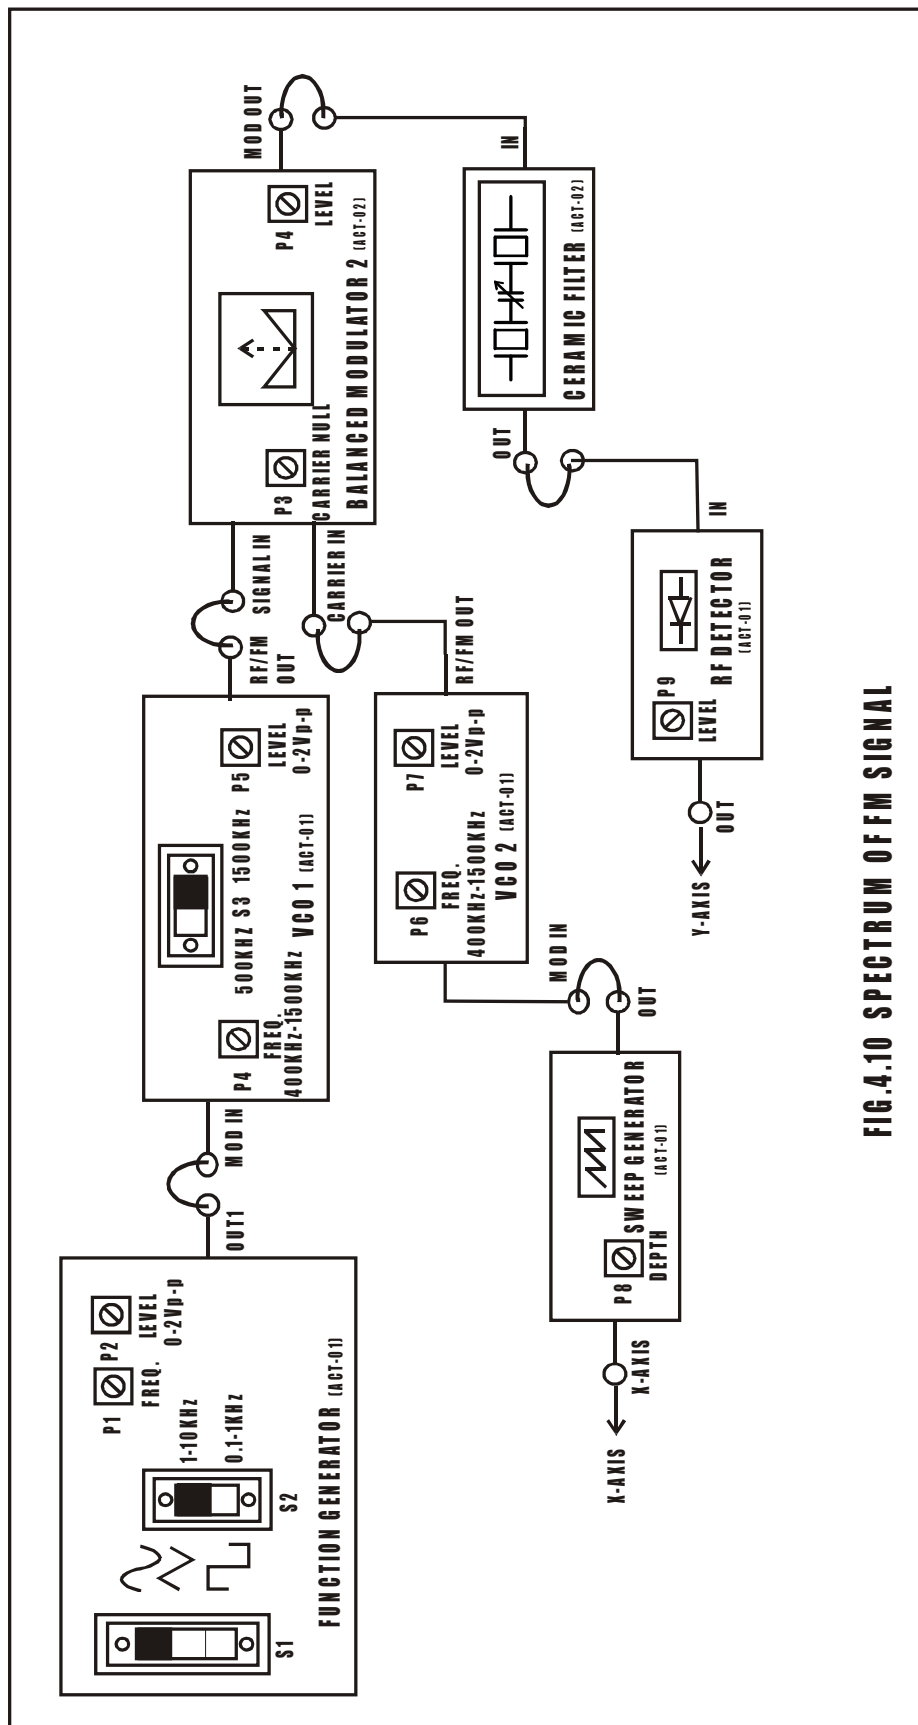

FIG.4.10 SPECTRUM OF FM SIGNAL
- Refer to the fig.4.10 & Carry out the following connections and switch settings.